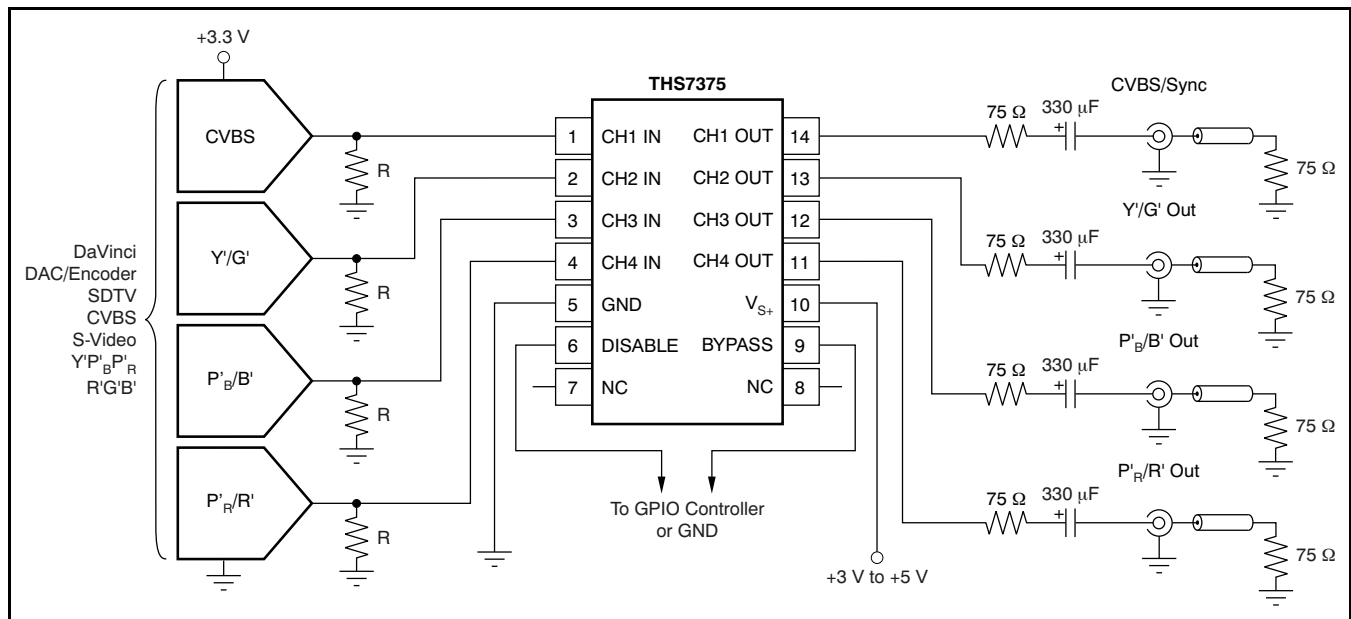

Figure 46. Typical SDTV CVBS/Y'P'B'P'R' Inputs from DC-Coupled Encoder/DAC with AC-Coupled Line Driving
A typical application circuit that uses the THS7375 as a video buffer is shown in Figure 46. It shows a DAC or encoder driving the input channels of the THS7375. One channel is a composite video (CVBS) channel of a standard definition (SD) video system. The other channels are the component video Y'P'B'P'R' (sometimes labeled Y'U'V' or incorrectly labeled Y'C'B'C'R') signals of a 480i or 576i system. These channels could easily be the S-Video Y'/C' channels or the R'G'B' channels of a SCART system.